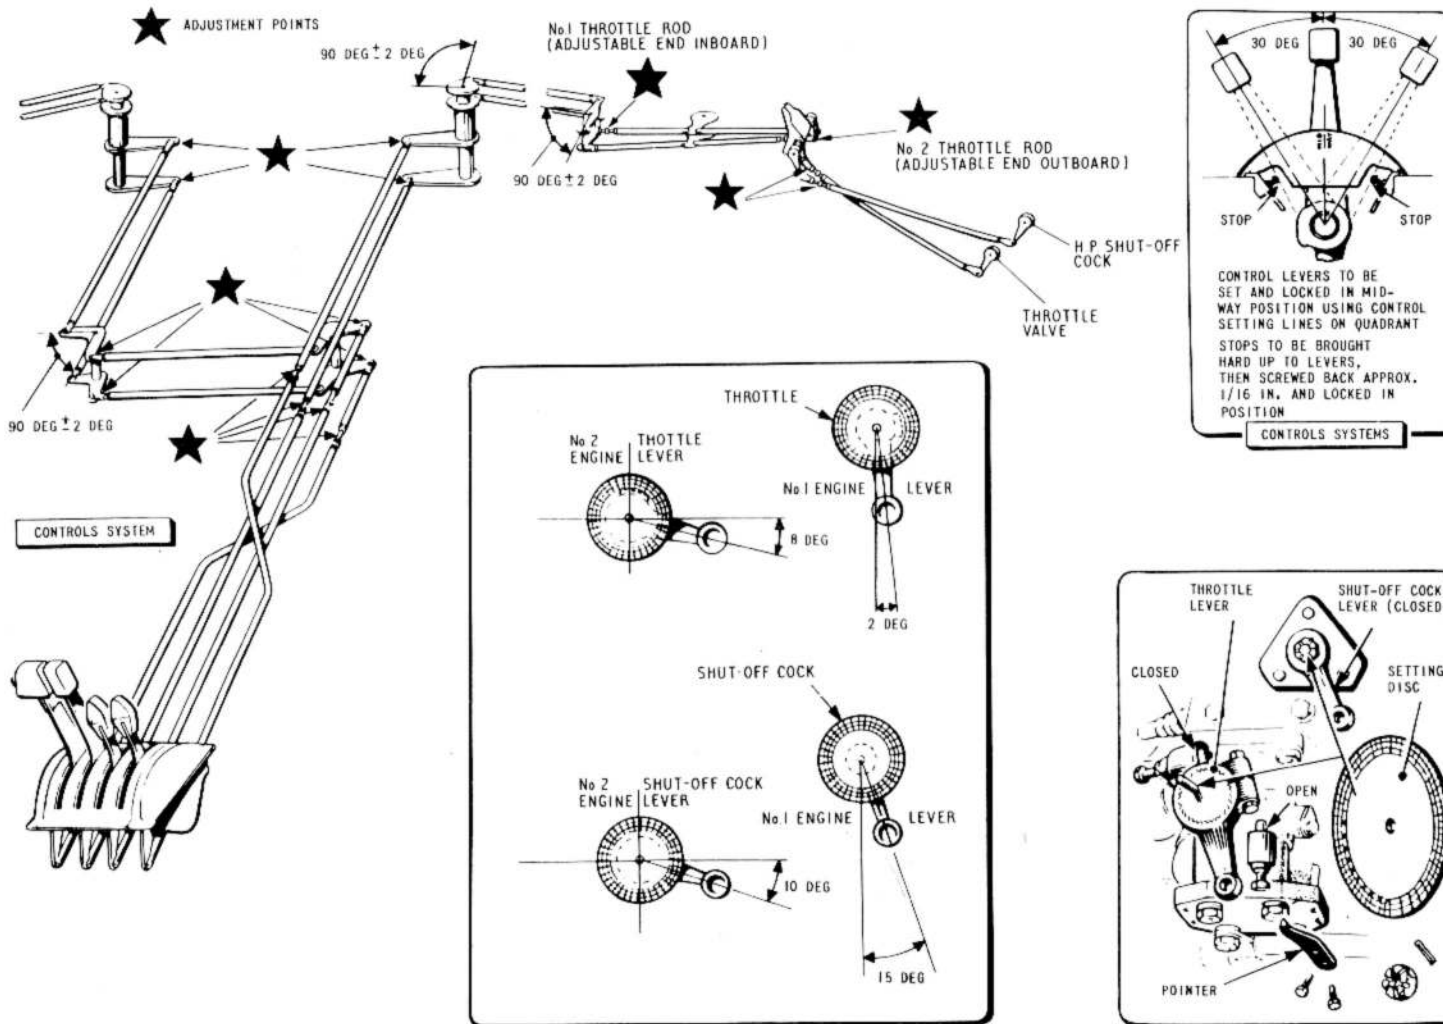

FIG. 4. RIGGING ENGINE CONTROLS
Engine controls (fig.4 and 5)
19. Refer to fig.4. The equipment provided is listed in Sect.2, Chap.4.
KEY TO FIG. 4 AND 5 (RIGGING ENGINE CONTROLS)
Engine control lever setting (fig.4)
Synchronization (fig.4)
H.P. shut-off cock control (fig.4)
14. Set the controls and bell-crank levers as for setting the throttle controls (op.(1) and (3)).
KEY TO FIG. 4 AND 5 (RIGGING ENGINE CONTROLS) - *continued***Starboard engine**